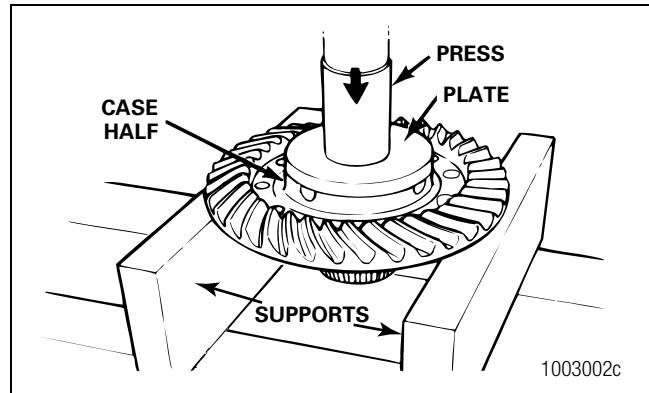

Figure 3.18
5. Use a press to separate the case half and ring gear. Support the assembly under the ring gear with metal or wood blocks. Press the case half through the gear. Figure 3.18.